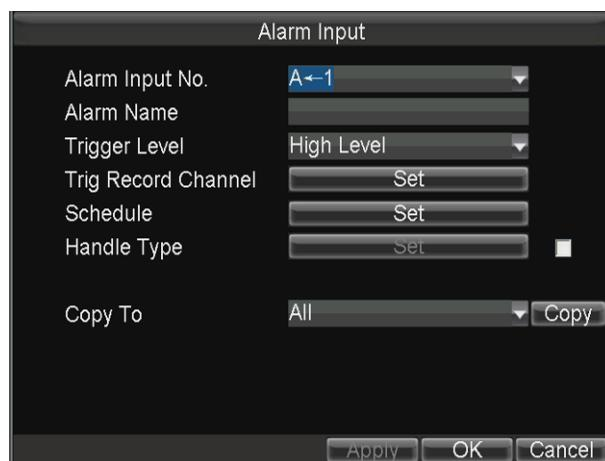

Figure 7.3 Alarm Input Settings Interface
1. Enter the Alarm Input Settings interface, as shown in Figure 7.3.